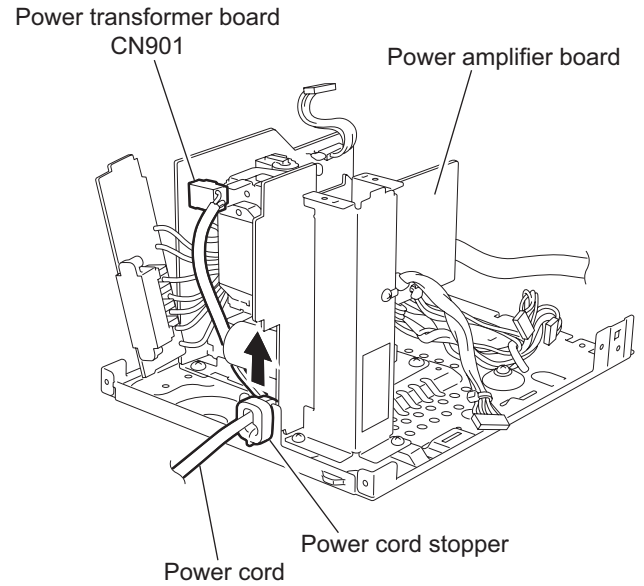

Fig.26
2.1.11 Removing the power transformer assembly (See Fig.26, 27)